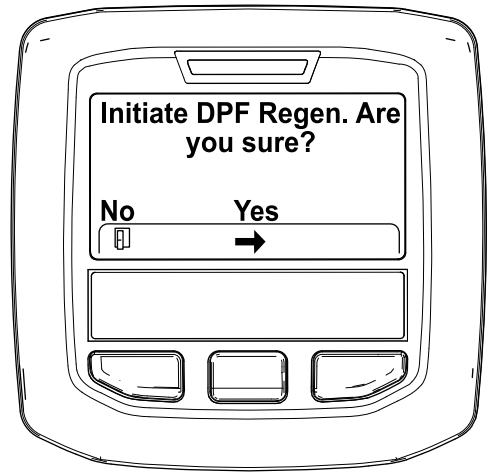

Figure 28
4. When the "Initiate DPF Regen. Are you sure?" message displays, press the center button (Figure 28).